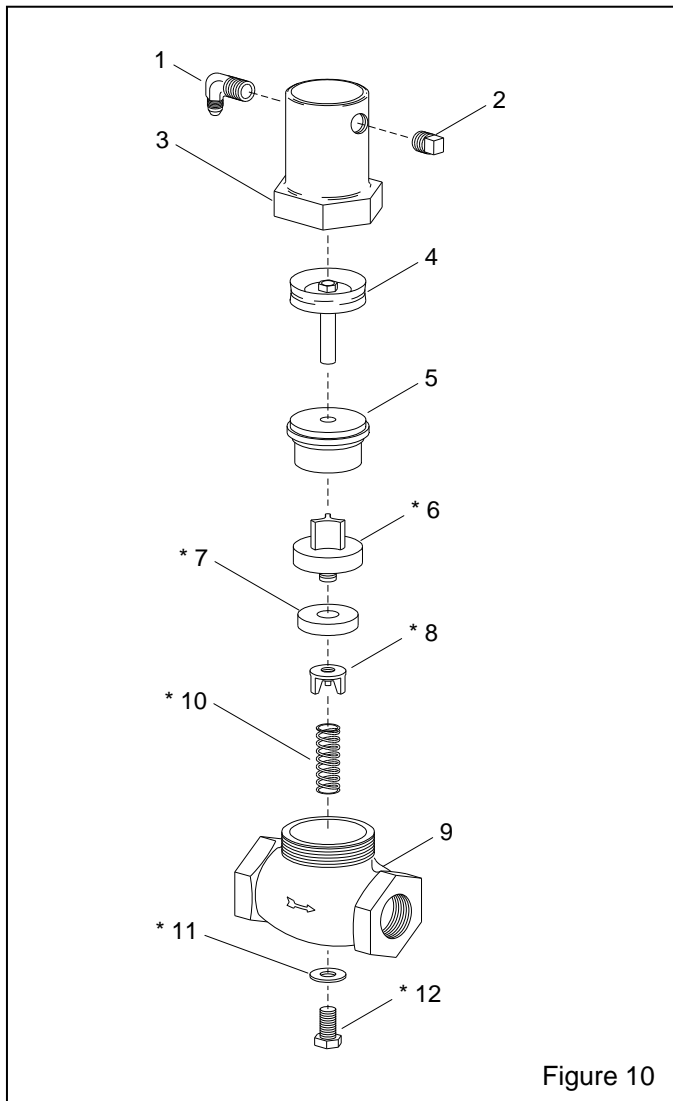

Figure 10
7.8 1" Piston Outlet Valve Figure 10